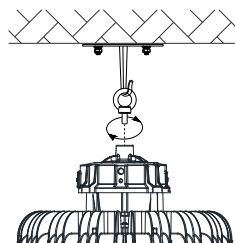

Figure 4
2. Please hang the fixture into the lifting hook and protect it from falling. ( Figure 4)